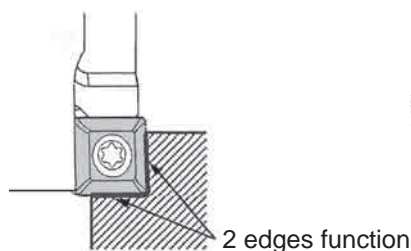

Fig.1
• When shouldering, side edges and bottom edges cut the workpiece. Both edges wear at the same time depending on a_p . The insert uses 2 edges instead of 4. (See Fig.1)